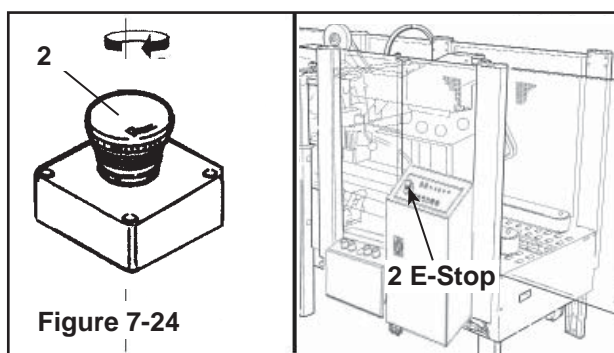

Figure 7-24
- Release the emergency stop push buttons rotating them clockwise (**Figure 7-24**).